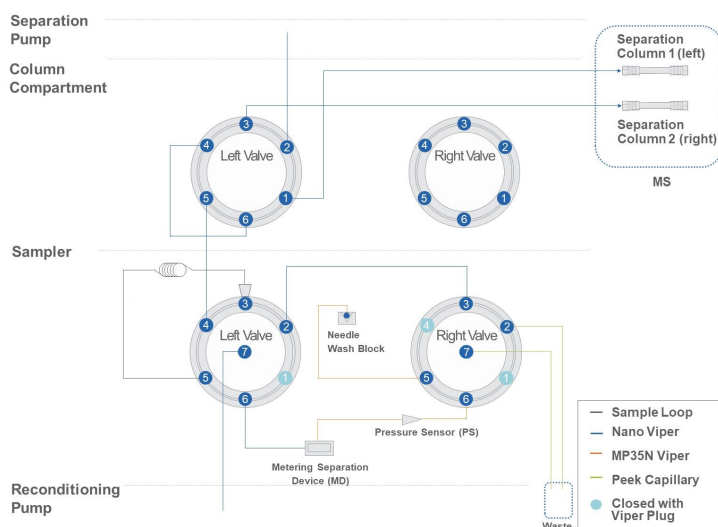

Figure 81: Fluidic schematics for the dual spray nano-cap fluidic configuration with the left switching valve connected to the detector
The script guides the user through the configuration change. Fluidic schematics are shown in Figure 81 and Figure 82 below.
TIP The schematic above (Figure 81), displayed on the VUI, shows the MS detector on the right-hand side, despite the left-hand valve being connected to the dual spray source (via capillaries connected to valve positions 1 and 3). This is purely for display purposes. The user should only opt for this configuration if the MS detector inlet is located on the left-hand side of the column compartment as this enables the shortest possible connection to the (MS) detector, resulting in minimum possible post column dispersion. Similarly, if the MS is located on the right-hand side of the column oven, the option (switching valve to detector => right) should be selected (see Figure 82).